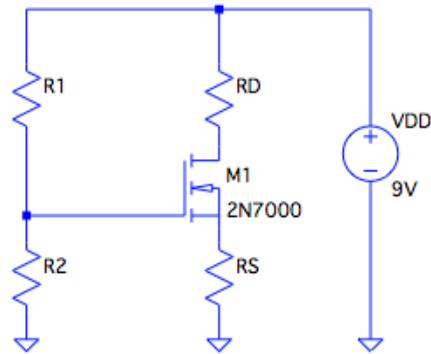

Figure 1.
1. Build a bias circuit resembling Figure 1.